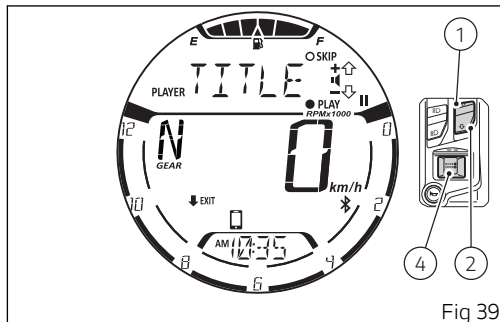

Fig 39
It is hence possible to access again to the music player control and button (1), button (2) and button (4) are used again by the instrument panel only for the music player controls (Fig 39).